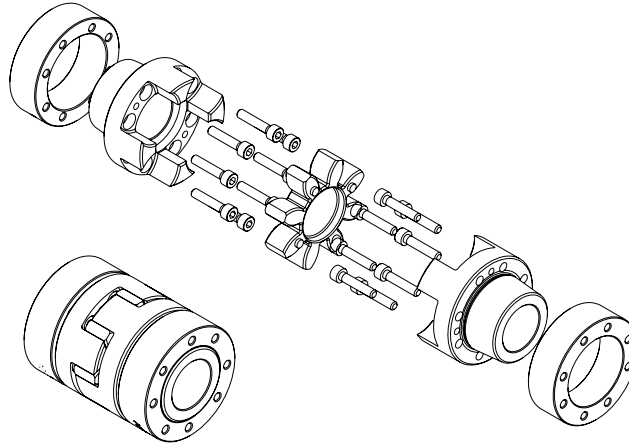

Figure 4-5 - GESA e GESAP assembling
- Install the hubs on the driving and driven shafts (see FIGURE 4-5)